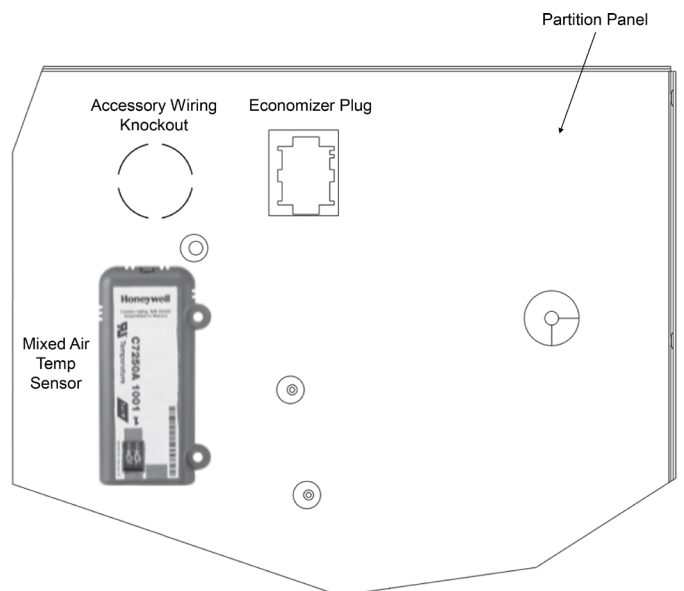
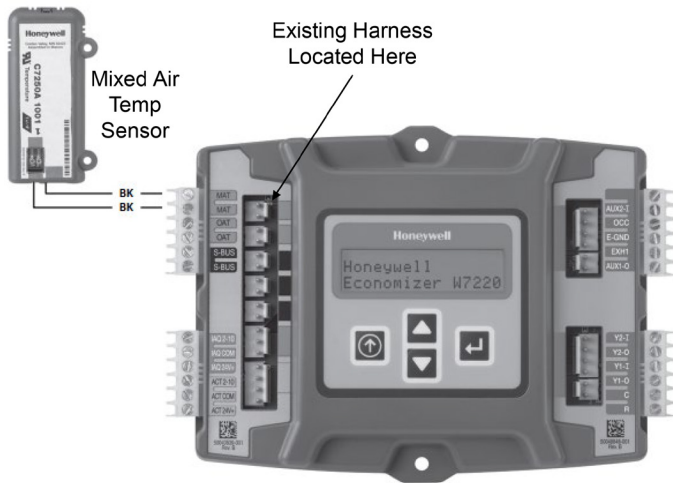

FIGURE 14
FIGURE 15
4. Some gas units may not have a factory installed mixed air temperature harness in the blower compartment. In this case, install the mixed air temperature sensor in the return air compartment (see Figure 14 for mounting location). Use the 2 cutting screws provided with the kit to mount the sensor. Disconnect the existing mixed air temperature sensor wire harness from the W7220 control module. Connect the mixed air temperature sensor to the W7220 controller using the harness provided with the kit (see Figure 15). Secure the disconnected mixed air temperature harness so that it does not interfere with any moving parts.